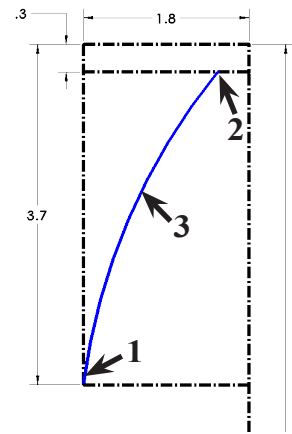

Fig. 6
Step 2. Click **3 Point Arc**  (S) in the **Arc** flyout  on the Sketch toolbar.
Step 3. Draw an arc between the Position 1, Position 2 and Position 3 in **Fig. 6**. To draw the arc, first click Position 1, then Position 2. Swing the arc out to Position 3 and click.